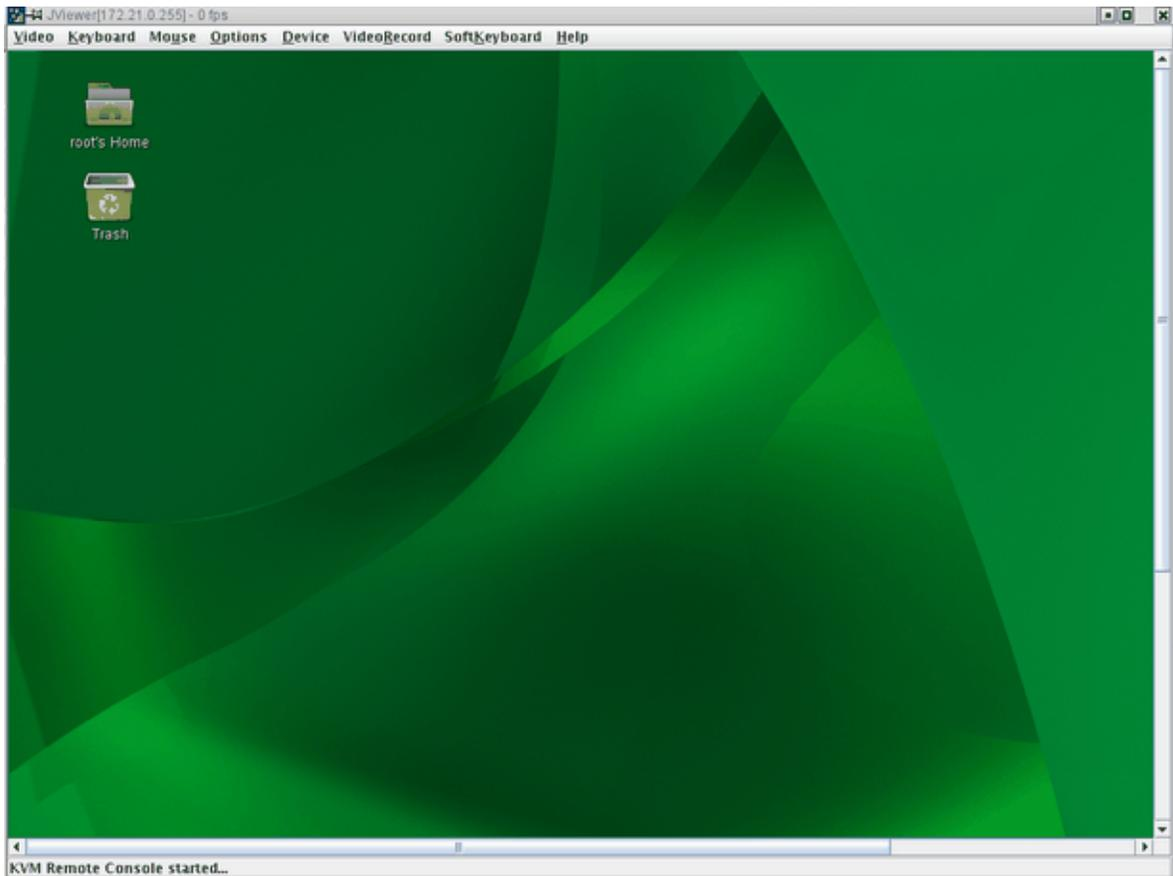

Figure 3-12 SUSE Linux Enterprise Server 11 (x86_64) Desktop Screen
15. The SUSE Linux Enterprise Server 11 (x86_64) desktop appears, as shown in Figure 3-12 on page 45.